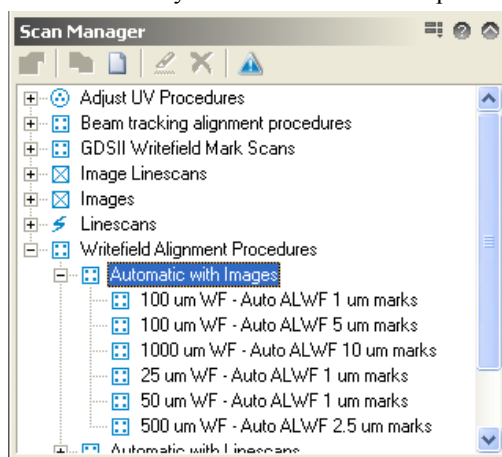

Figure 21: Automatic align-writefield procedures.
9. In the Scan Manager (see Figure 21) select 'Writefield Alignment Procedures ->Automatic with Images'. Drag ,100 um WF - Auto ALWF 5 um marks' into the positionlist, as well as the ,...1 um marks' one. Execute each in turn by selecting it in the positionlist and right-click on it + select ,Scan'. This procedure uses an automatic algorithm to determine the error vector that you have selected in the previous Manual procedures.